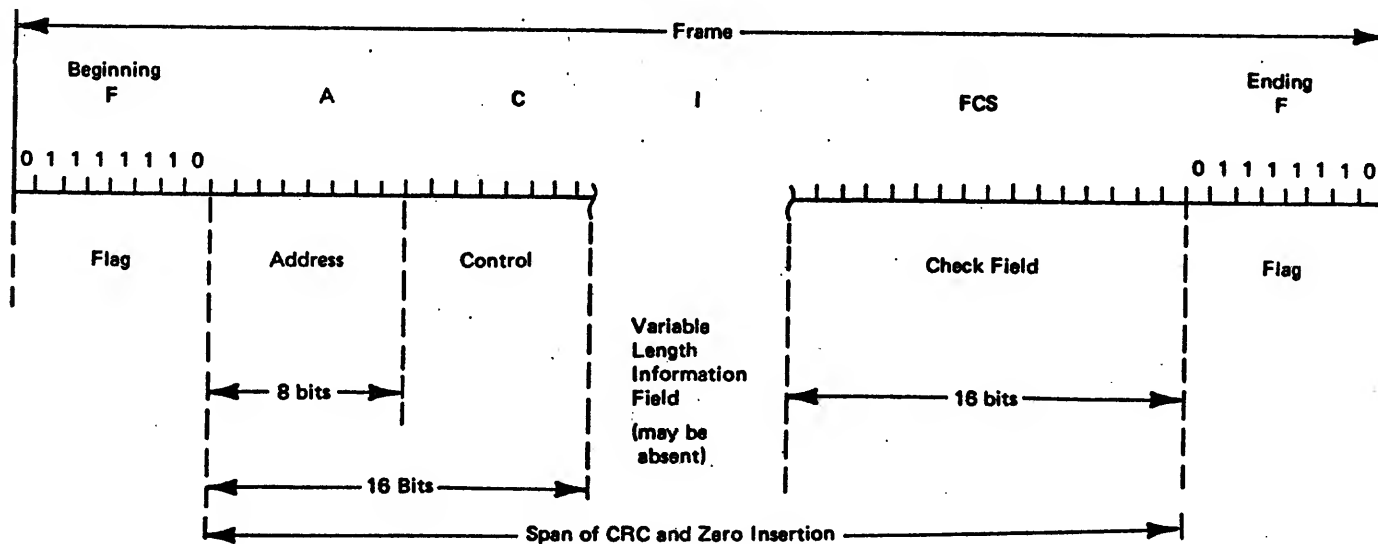

Figure 1. Frame Format (courtesy of International Business Machines Corporation).
5. In SDLC protocol, communication is performed via frames. Frames define a bit stream into meaningful blocks. Each frame is bounded (delimited) by a beginning and an ending flag (figure 1). The flag bit pattern is  $01111110_2$  ( $7E_{16}$ ).